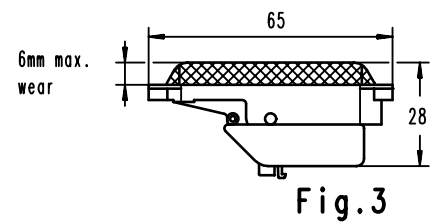

Fig. 3
- Transfer caps corresponding to figs. 3 and 4 :